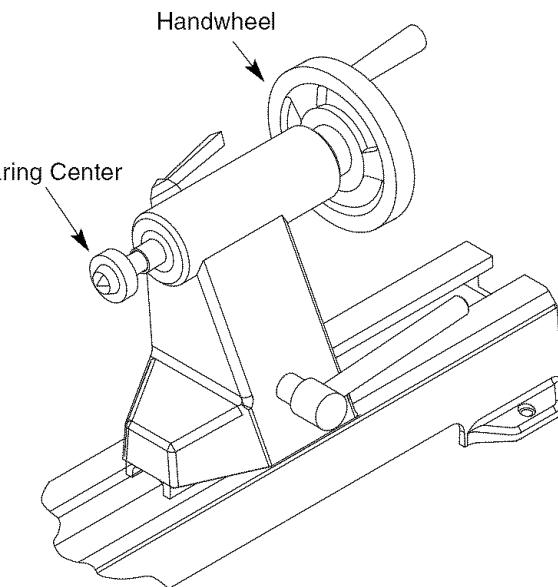

Figure 3
- To remove bearing center from tail stock ram, turn hand-wheel counterclockwise. Refer to Figure 3.